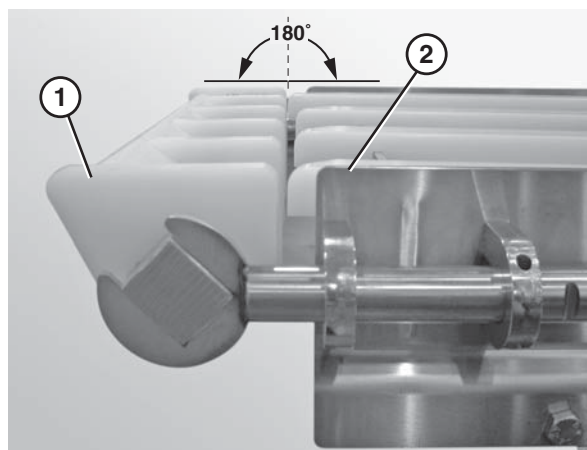

Figure 18
5. Ensure that the nose bar pucks (**Figure 18, item 1**) are in line with the conveyor frame (**Figure 18, item 2**).